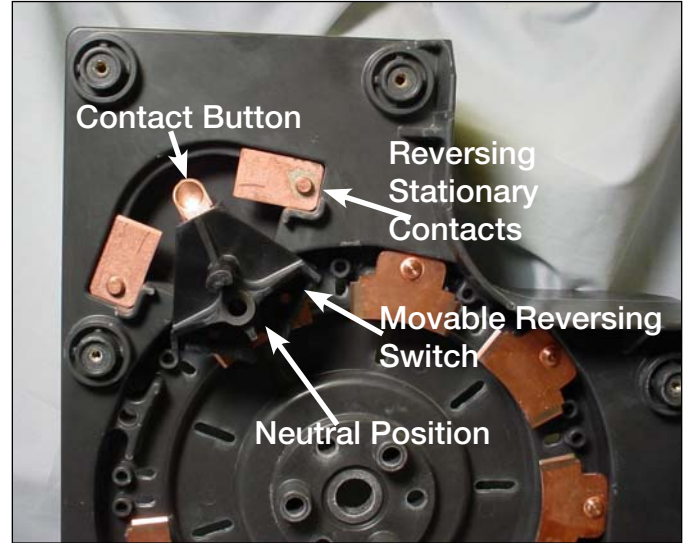

Figure 22.
- Rotate the reversing switch assembly, if not already rotated, so that the contact buttons are in the center space between the VR and VL stationary contacts as though in the neutral position. See Figure 22.
- Install the reversing switch assembly with the contact buttons located between the VR and VL stationary contacts. See Figure 22.